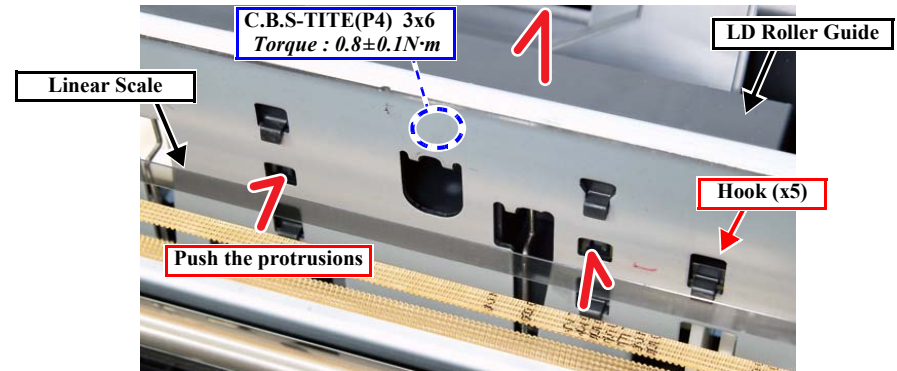

Figure 4-63. LD Roller Guide
4. Remove the screw securing the LD Roller Guide. (Fig. 4-63)